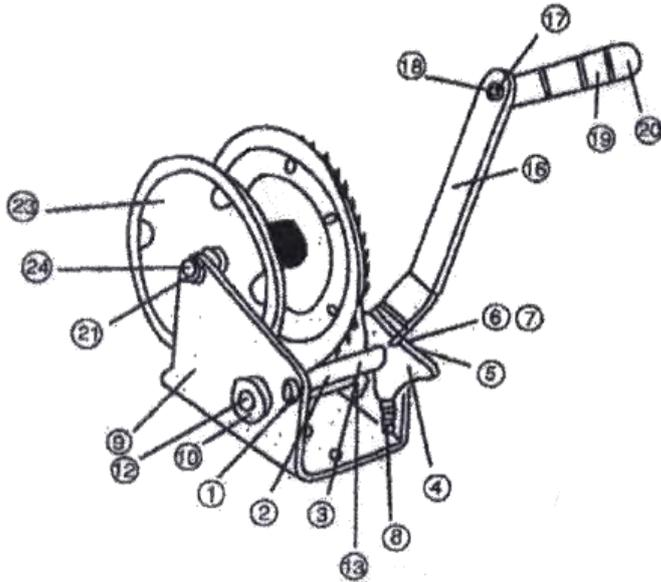

Figure 28: Winch list and spare parts.
- install lifelines (Figure 28) when it is not possible to install suitable parapets on the walkways;